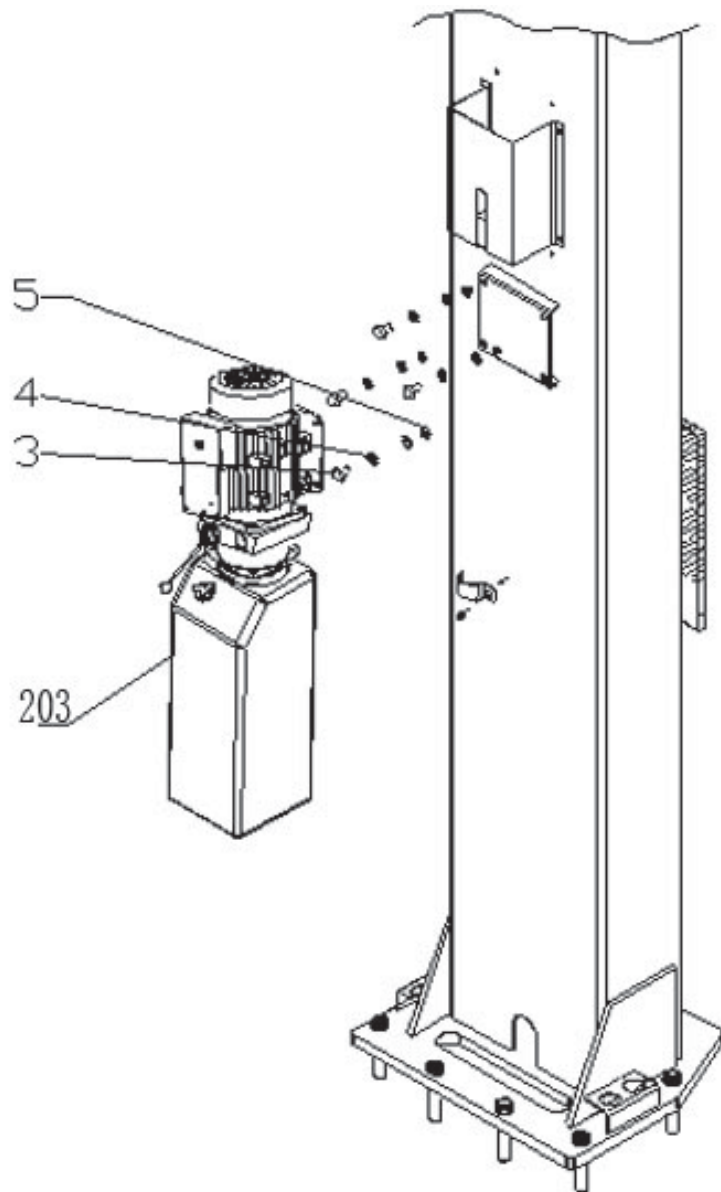

Fig. 31
M. Install power unit (See Fig. 31)